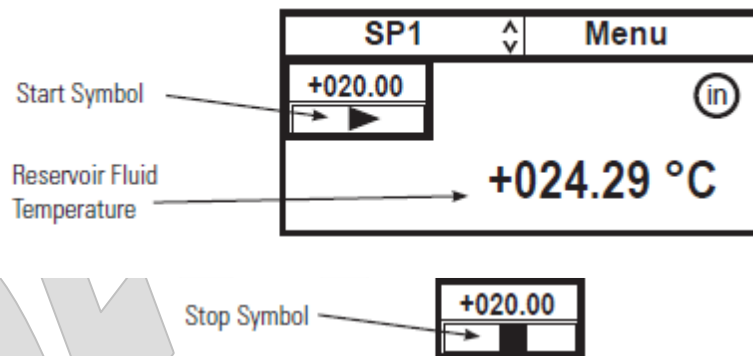

Figure 9: Display screen of the chiller
- 9.3. The unit will start and the start symbol will turn into a stop symbol (■) as seen in Figure 9 (note: program seen in the below figure is only for referencing the symbols).